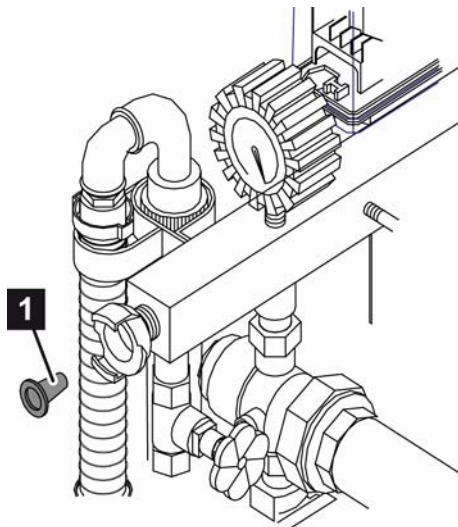

Fig. 20: Water inlet sieve
5. Ensure that the water inlet sieve (Fig. 20/1) is clean.